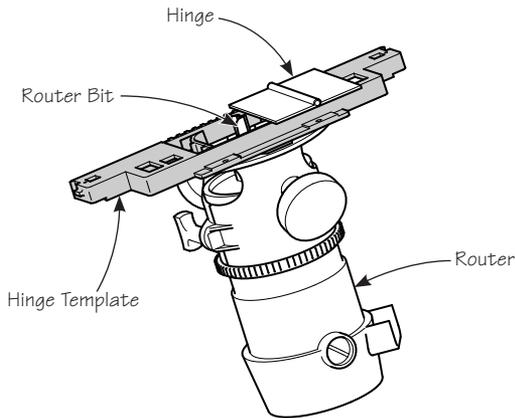

Figure 1: Setting bit depth.
3. Set one of the templates on the router's base plate, and then place the hinge (open) on top of the template, as shown in **Figure 1**.